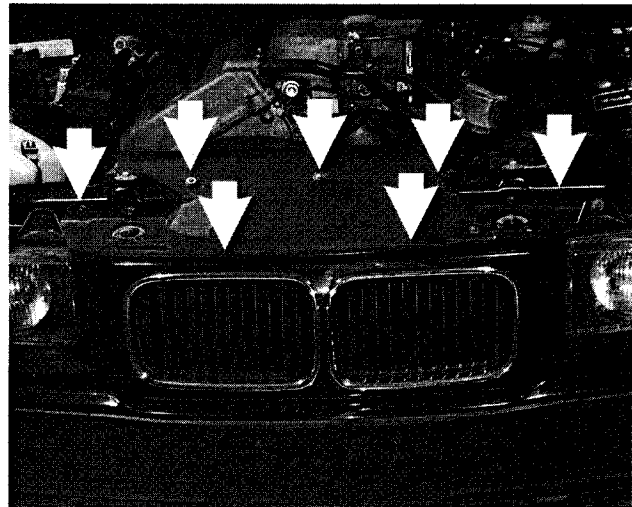

Fig. 11. Front radiator air shroud fasteners (arrows).
1. Remove front radiator air shroud. See Fig. 11.